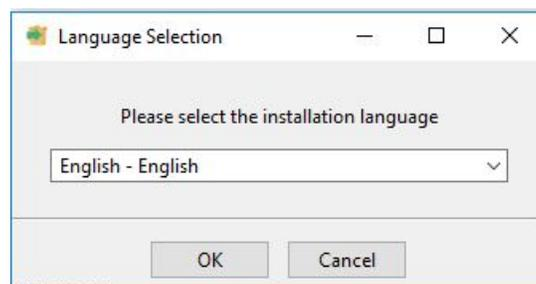

Figure 5. Language Selection
- Step 1. Follow the prompts to select another language from the default of English (see Figure 5).